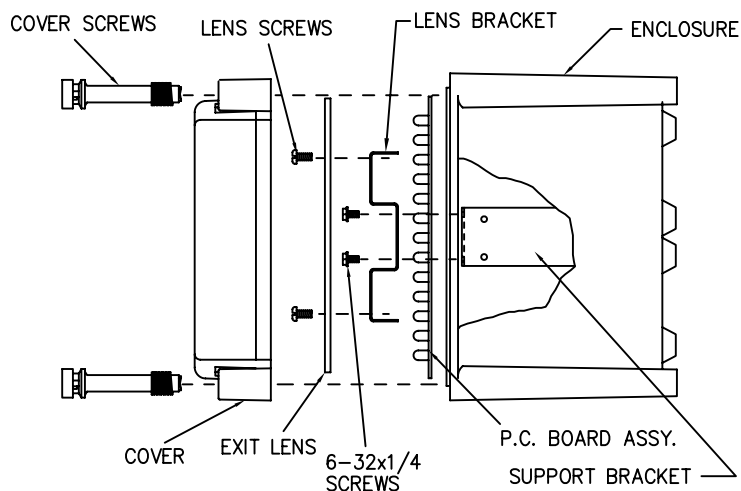

FIG. 2
2. Remove cover, exit lens, lens brackets and p.c. board Assy. (Fig. 2)